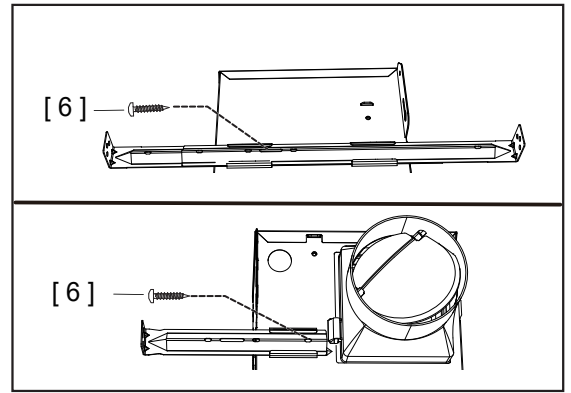

Fig 15
5. Find the hole in the center of overlapped pair of Brackets [3]. Install one Short Screw [6] in the hole, close to the middle of the Fan Body [1]. (Fig 15)
6. Install one Short Screw [6] to the hole of the third bracket and secure. The hole should be close to the center of the slot. (Fig 15)